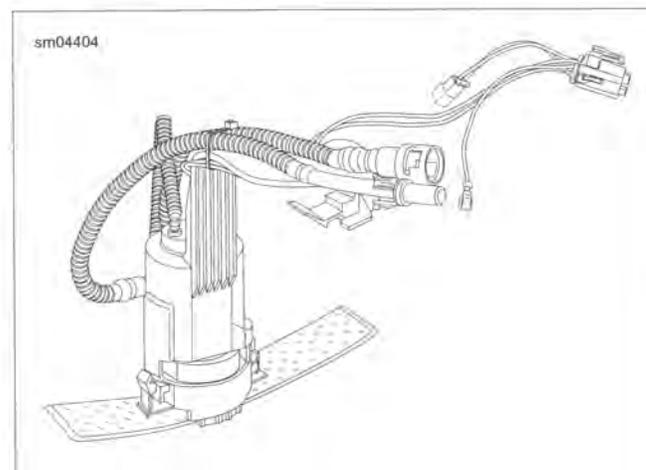

Figure 4-38. Fuel Pump Assembly
6. See Figure 4-38. Remove fuel pump from left side of fuel tank. Rotate fuel pump assembly 90 degrees clockwise until transfer tube connection is pointing rearward. Remove from fuel tank.